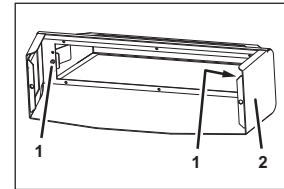

Fig. 23
3. Remove the fastening bolts (Fig. 23/1) from the taxi cab hood (Fig. 23/2).
11. Attach the taxi cab hood (Fig. 23/1) using the fastening bolts (Fig. 23/1).